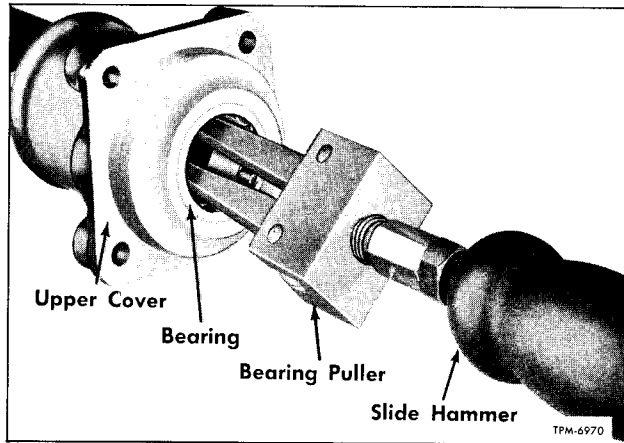

Figure 8—Removing Bearing From Upper Cover
4. With a suitable puller and slide hammer, remove the bearing assembly (34) from bevel gear upper cover (3). Refer to figure 8.
5. While holding steering shaft (29) in a vise with soft jaws, remove pinion gear retaining nut (39) from end of steering shaft (29).
6. Supporting the pinion gear, tap steering shaft (29) out of pinion gear (38) using a brass drift and hammer. Remove gear, lower bearing (36),